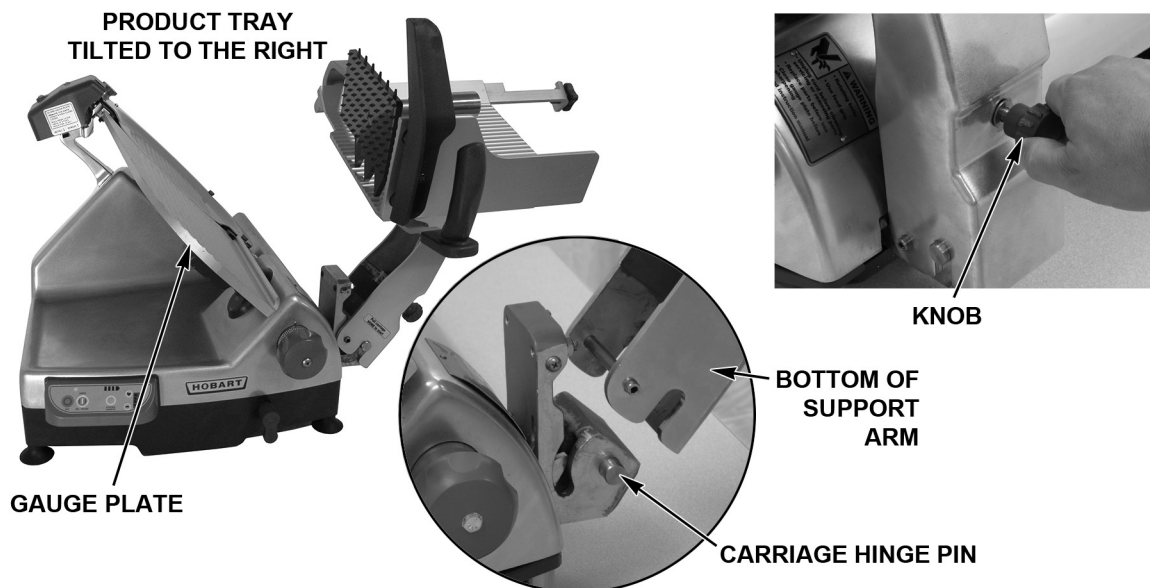

Fig. 10
- Loosen the Knob (Fig. 10) on the Support Arm. Tilt the Product Tray to the right (Fig. 10).